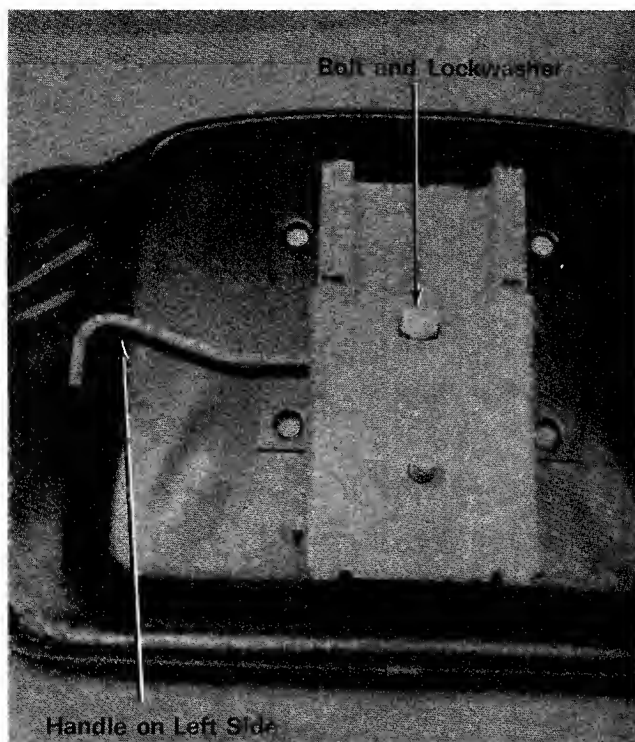
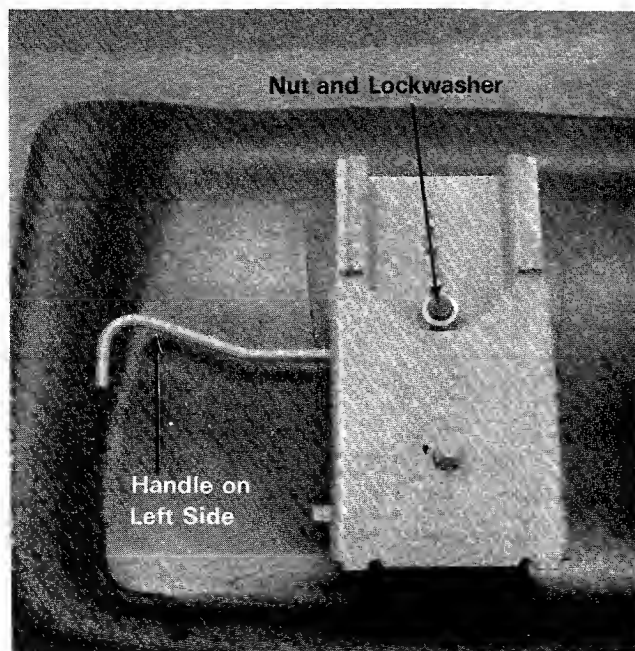

Figure 6
Figure 7
1. Assemble the seat adjuster to the seat using either the nut and lockwasher as shown in figure 6 or the bolt and lockwasher as shown in figure 7, depending on the style of the seat.